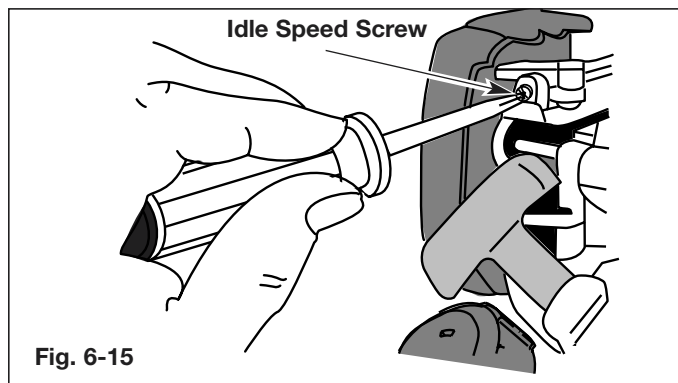

Fig. 6-15
The idle speed of the engine is adjustable by the screw next to the air filter cover (Fig 6-15).
2. Release the throttle trigger and let the engine idle. If the engine stops, insert a small phillips or flat blade screwdriver into the screw next to the air filter cover (Fig. 6-15). Turn the idle speed screw in, clockwise, 1/8 of a turn at a time (as needed) until the engine idles smoothly.